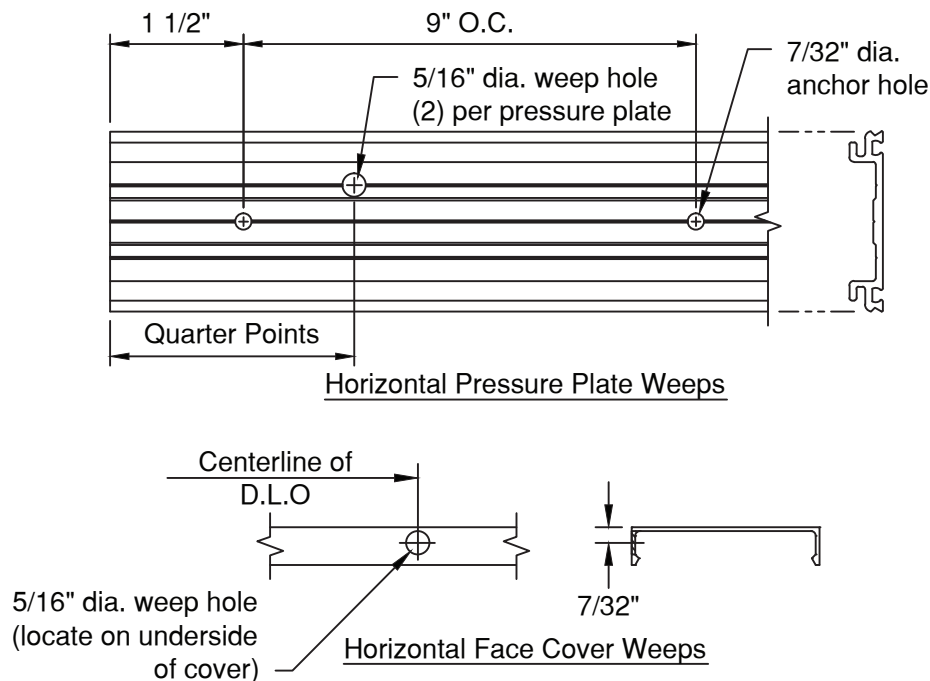

FIGURE 5
- 1.5 Drill 5/16" dia. weep holes at 1/4 points in the horizontal pressure plates. Drill (1) 5/16" dia. weep hole at the bottom of each horizontal face cover at the centerline of the D.L.O. **SEE FIGURE 5, page 7.**